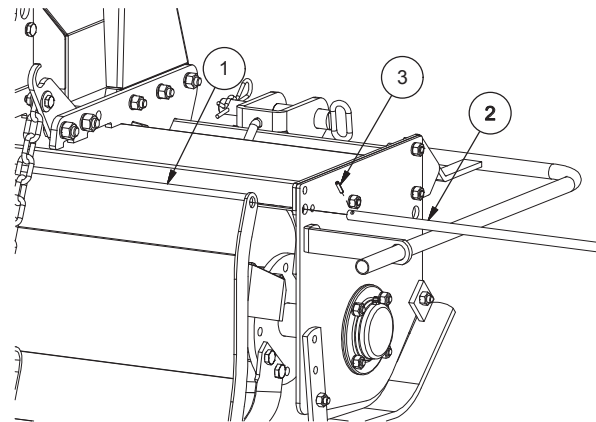

FIG. 7
- Fit rear hood (1, Fig. 7): place it between the frame sides; insert the rod (2) through the hood and both the sides; stop the rod sliding by inserting the two spring pins (3) in the proper holes at its ends.